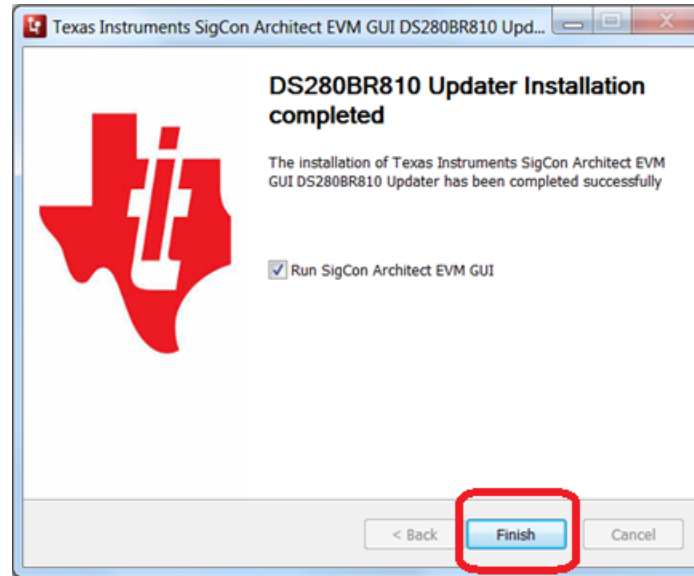

Figure 3. SigCon Updater Installation
5. Contact TI Application Support to obtain the profile for the DS280BR810 linear repeater, “DS280BR810 Updater.exe”. Double-click this file and install it step-by-step based on the pop-up information. Click the *Finish* button at the end of the installation to open the SigCon Architect tool automatically (see Figure 3).